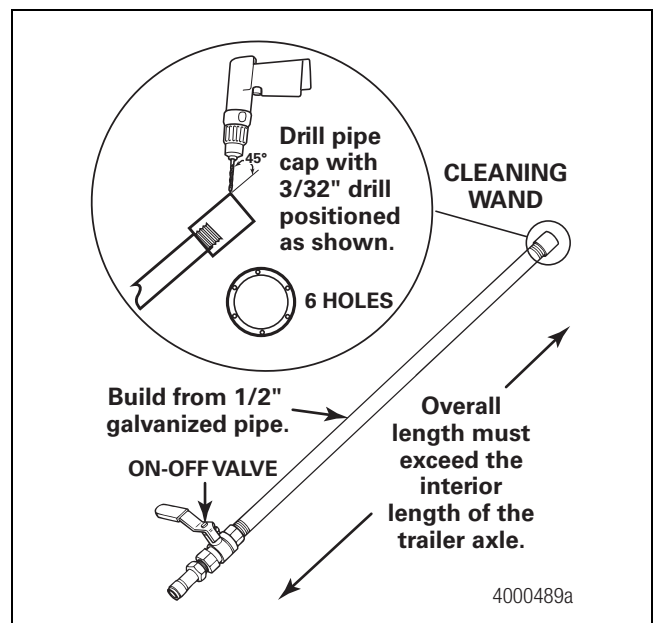
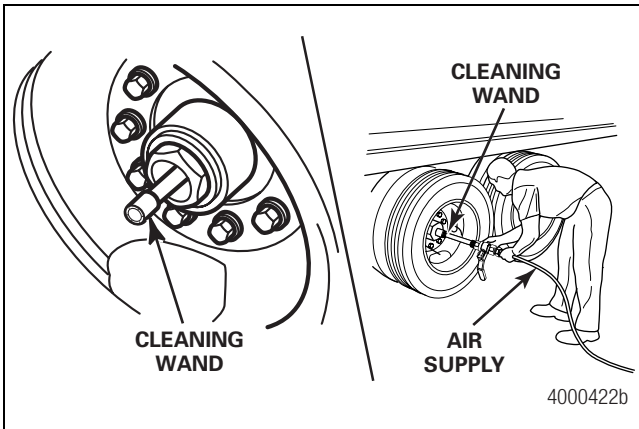

Figure 8
Figure 9
8. Connect a cleaning wand to a high-volume air supply. Refer to Figure 8 for information on building a cleaning wand. Slowly push the wand through the axle until it exits the opposite end. During this operation, a steady stream of air will flow from the opposing axle spindle. Figure 9.